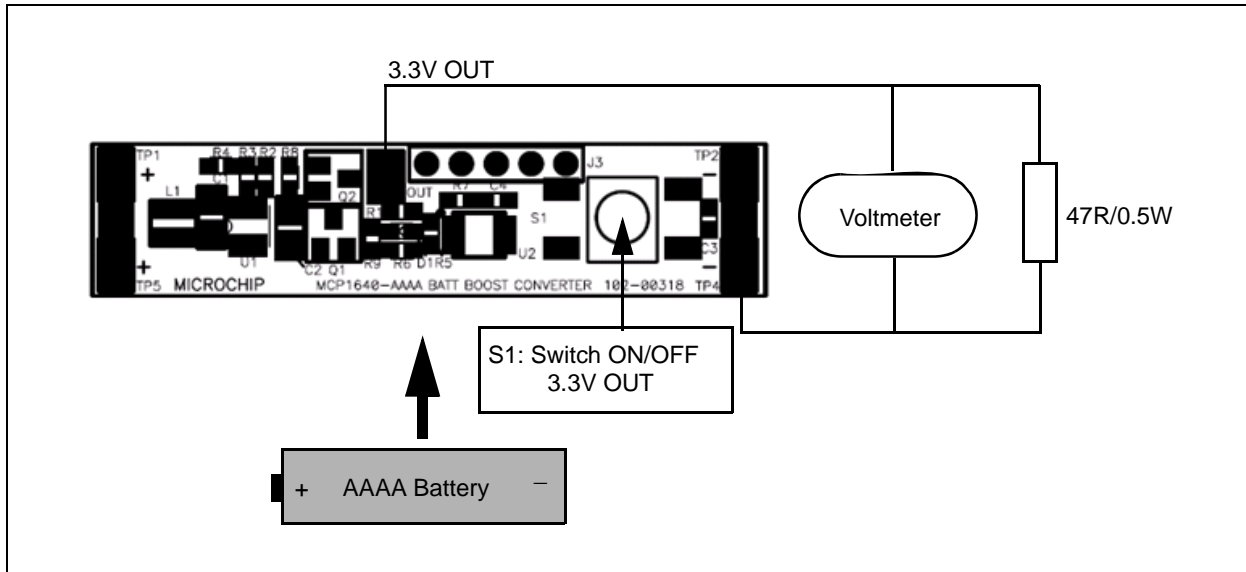

FIGURE 2-2: MCP1640 Single Quadruple-A Battery Boost Converter Reference Design Setup Circuit.
2. Connect a voltmeter and a $47\Omega/0.5W$ resistor, between "OUT" and "-" connectors, as shown in Figure 2-2.